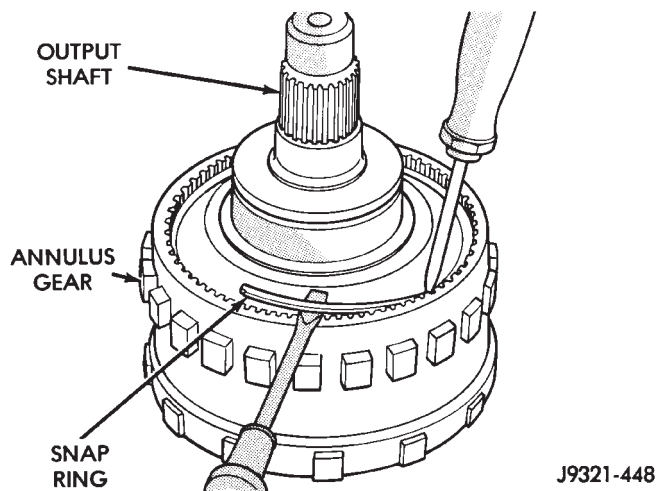

Fig. 208 Annulus Gear Snap Ring Removal
(10) Remove snap ring that secures annulus gear on output shaft (Fig. 208). Use two screwdrivers to unseat and work snap ring out of groove as shown.